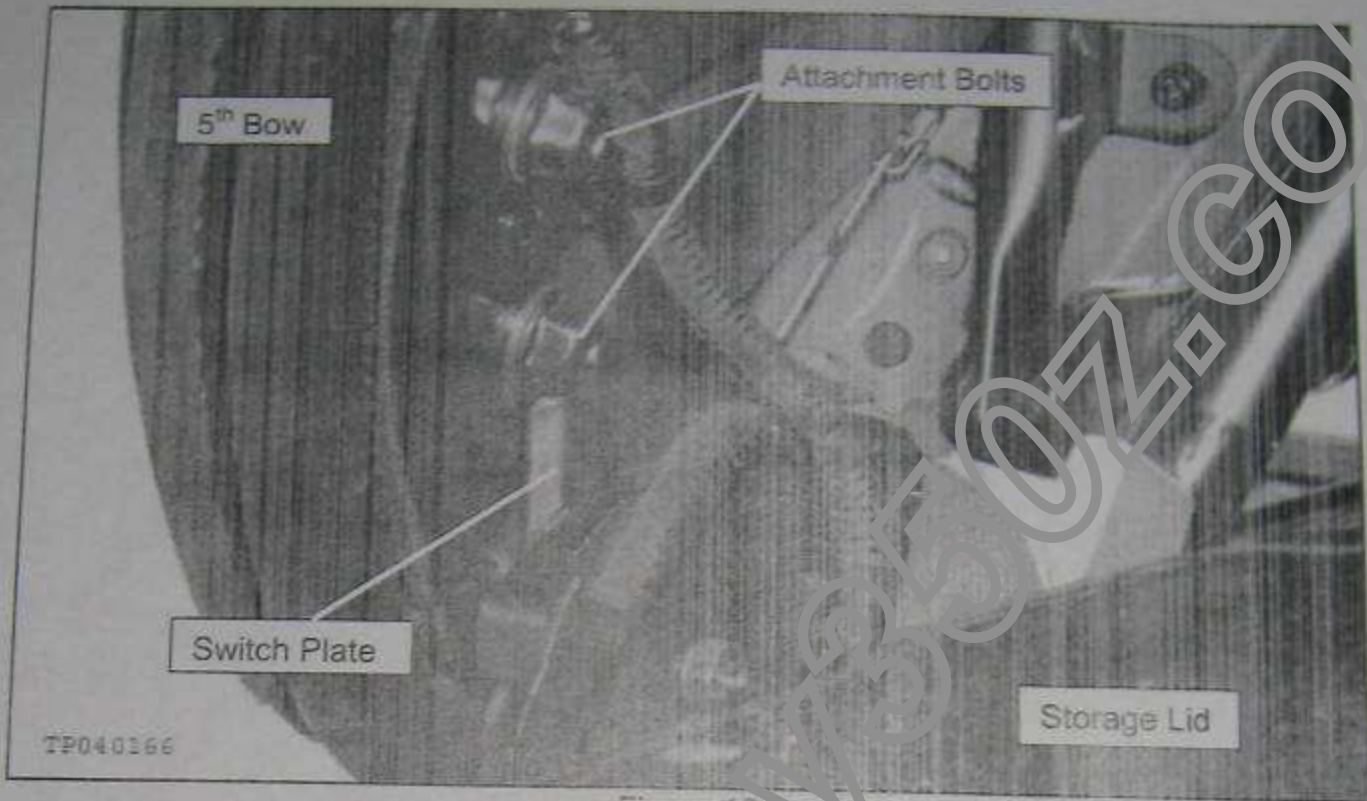

Figure 13
- Make sure the attachment bolts are tight (see Figure 13).
- Apply Genuine Nissan Window Regulator Grease—P/N 999MP-WRG00P—to the switch plate (see Figure 13).